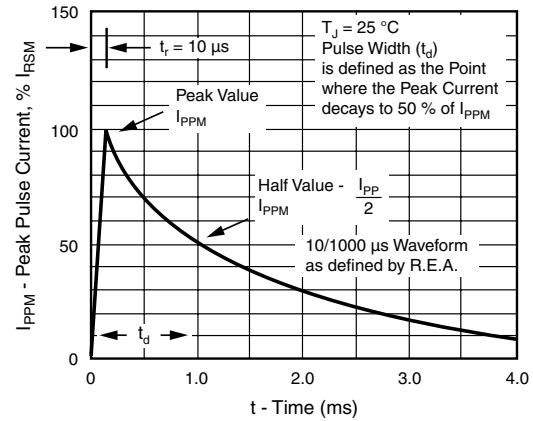
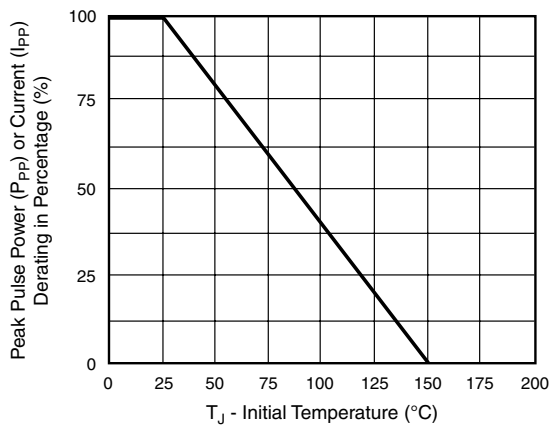

Figure 3. Pulse Waveform
Figure 2. Pulse Derating Curve
(1) Non-repetitive current pulse, per Fig. 3 and derated above  $T_A = 25$  °C per Fig. 2
(2) Mounted on 0.2 x 0.2" (5.0 x 5.0 mm) copper pads to each terminal
(3) Pulse test: 300  $\mu$ s pulse width, 1 % duty cycle
- (1)  $V_{BR}$  measured after  $I_T$  applied for 300  $\mu\text{s}$ ,  $I_T$  = square wave pulse or equivalent
(2) Surge current waveform per Fig. 3 and derate per Fig. 2
(3) All terms and symbols are consistent with ANSI/IEEE C62.35